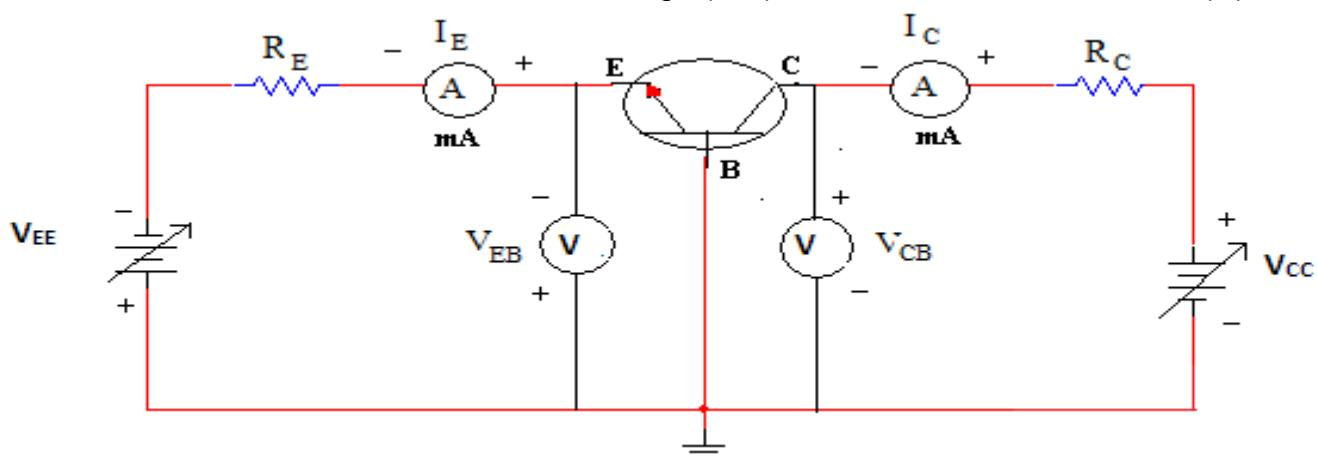

Fig. 3.7 Circuit arrangement for determining common base transistor characteristics
- These curves may be obtained by using the circuit arrangement as shown in Fig. 3.7.
- These characteristics may be obtained by using the circuit shown in Fig. 3.7.